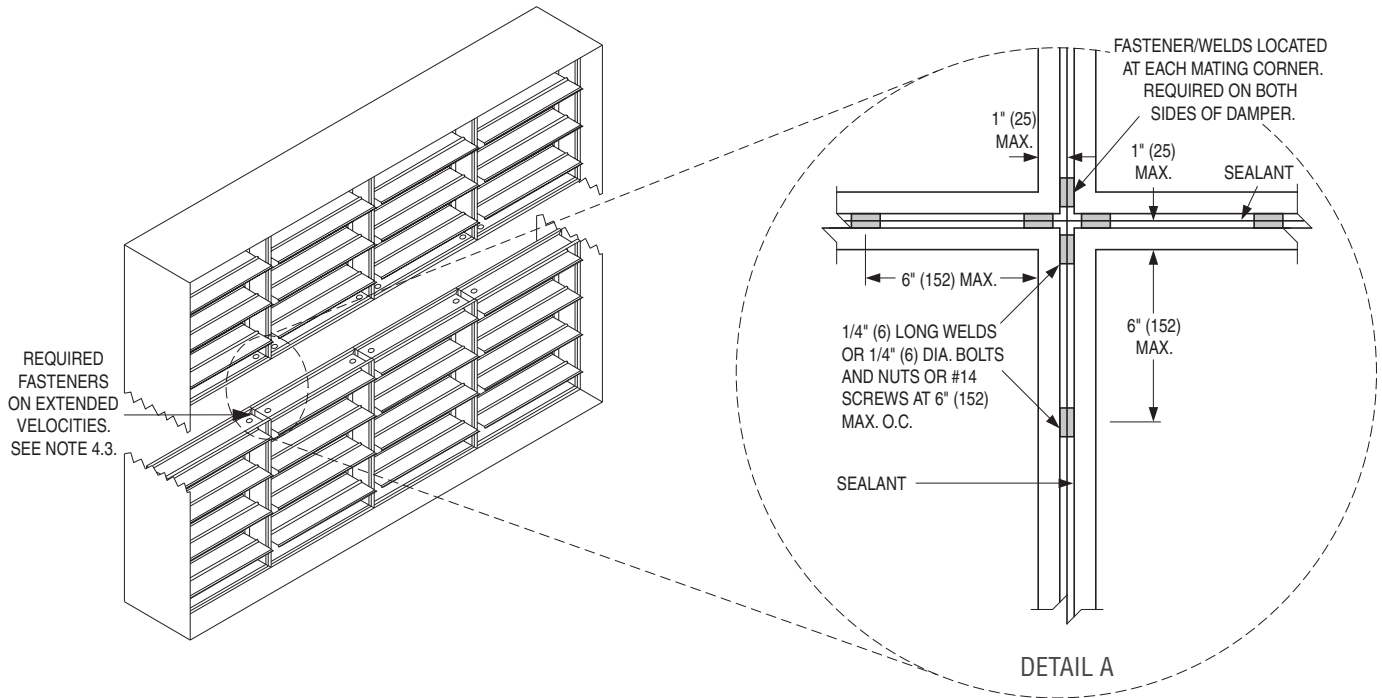

FIGURE 2: JOINT DETAILS FOR MULTIPLE SECTION ASSEMBLIES WITH EXTENDED VELOCITIES
3. In addition, on multiple section assemblies with extended velocity ratings, greater than 2000 fpm (10.2 m/s), #14 screws, 1/4" (6) dia. bolts and nuts, or 1/4" (6) long welds shall be used for all damper to damper joints where four damper sections adjoin and shall be located within 1" (25) of each mating corner of each damper section. Fastener/welds required on both sides of the damper assembly. (See Figure 2).